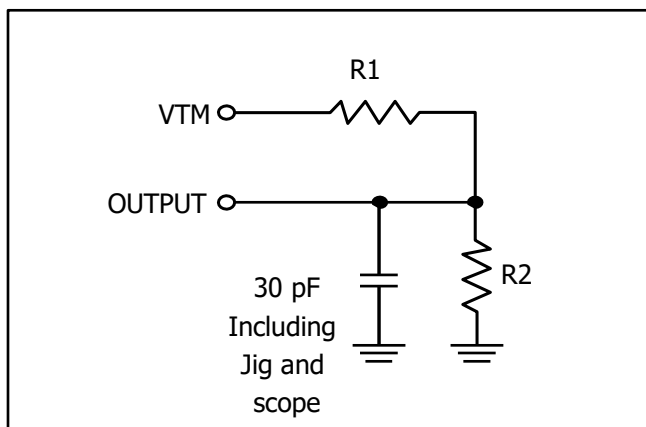

Figure 1
| Output Load | See Figures 1 and 2 | See Figures 1 and 2 |
1. Test conditions and output loading are specified in the AC Test Conditions and AC Test Loads (Figure 1) on page 5.